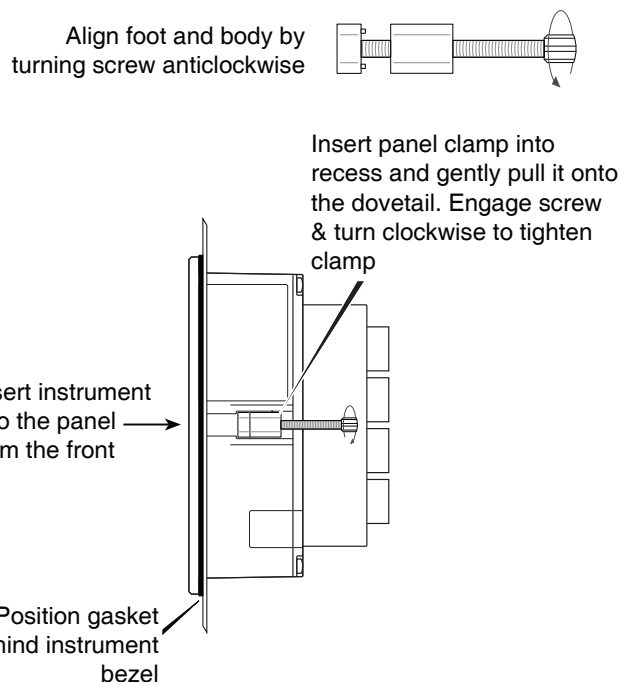

Fig 3 Installation of panel and mounting clamps
2. First ensure that all eight panel mounting clamps are closed by turning the knurled screws fully anticlockwise until the two pips in the clamp foot align with holes in the clamp body as shown in Fig 3.
4. Place a clamp in the recess on each side of the BA3101, pulling gently to slide it onto the dovetail as shown in Fig 3. Push the knurled screw slightly forward to engage the thread and tighten by turning clockwise until it is just finger tight. When both clamps are fitted ensure that the gasket behind the front panel bezel remains correctly positioned before fitting the remaining panel mounting clamps. Finally, fully tighten all the panel clamps to secure the instrument. The maximum recommended clamp tightening torque is 22cNm (1.95 lbf in) which is approximately equivalent to finger-tight plus one half turn. Do not over tighten.